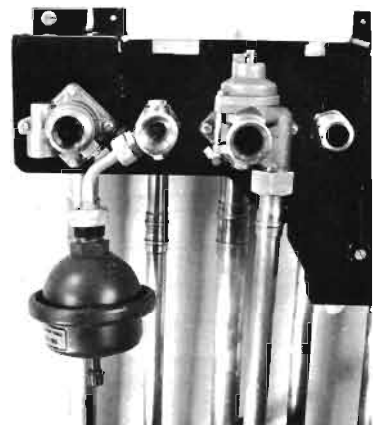

Fig. 9
6.6.3 A small expansion vessel is supplied with the fixing jig. This must be fitted to the 1/4in BSP nipple on the cold inlet connection using the cranked copper connecting pipe provided. Refer to Fig. 9.